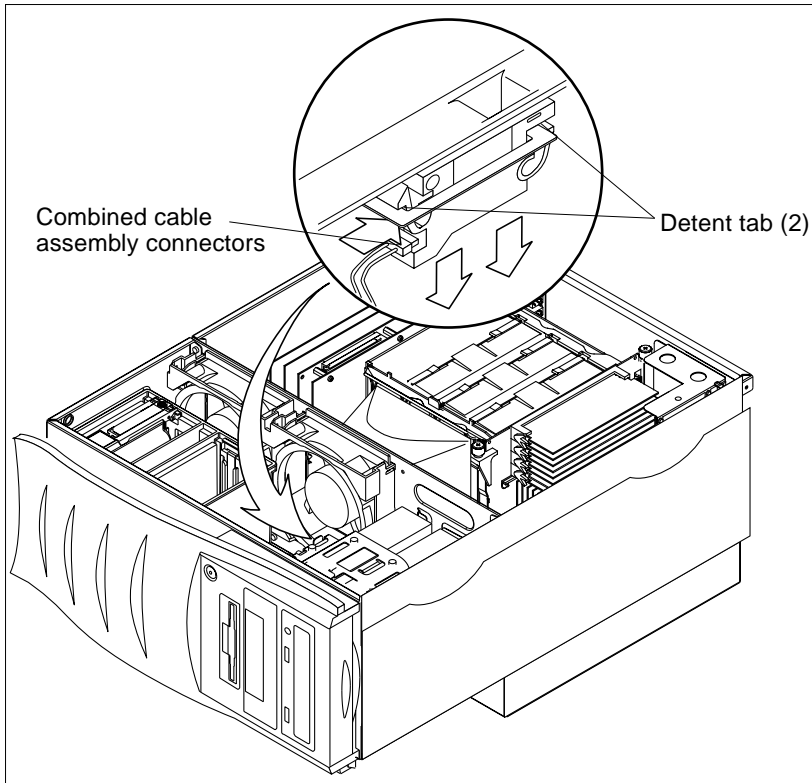

FIGURE 7-8 Removing and Replacing the Interlock Switch Assembly
- 3. Remove the interlock switch assembly as follows (FIGURE 7-8):**
1. Replace the interlock switch assembly as follows (FIGURE 7-8):